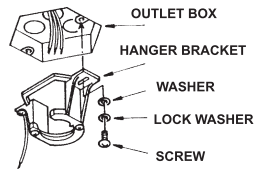

Fig.8
Step 1. Secure the hanger bracket to the ceiling outlet box using screws included with your outlet box and washers included with fan. (Fig 8)